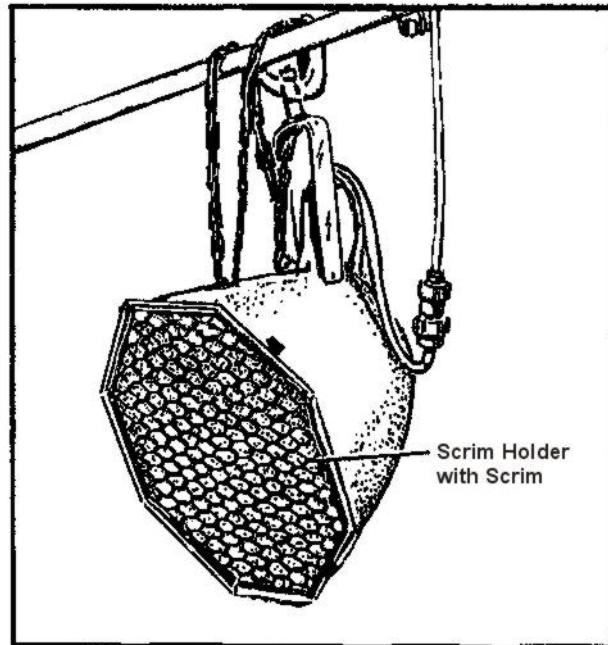

Figure I-15. Scrim
(4) Scrim (Figure I-15) are spun glass diffusers that are placed in front of floodlights or external reflector spotlights to achieve maximum diffusion of the light beam. In the studio, scrims are frequently used to produce "soft" light, especially if you need to light a large area evenly or if you want to raise the overall base light level.